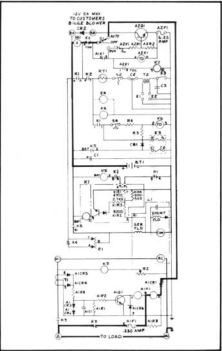

FIGURE 5-3. LOAD DEMAND (SPEC D)
- If unit stops with 100 watt load, move toggle switch to OFF position. Remove cover from A-K¹ printed circuit board. Connect a jumper wire from terminal C of Relay A-K¹ to the ground terminal in the Control-O-Matic. Move toggle switch to AUTO. Unit should start and run. If it does not, remove relay to check continuity of relay coil terminals A, B and C of 307-1087. Resistance A-C equals approximately 34 ohms. See Figure 5-3.